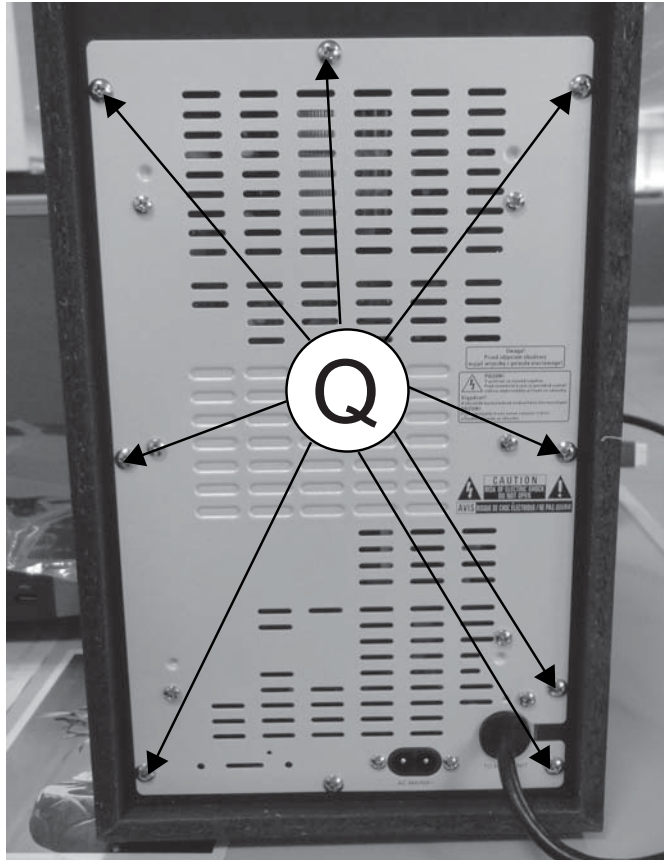

Figure 17
1) Loosen 9 screws "Q" at the subwoofer rear panel as shown in figure 17.